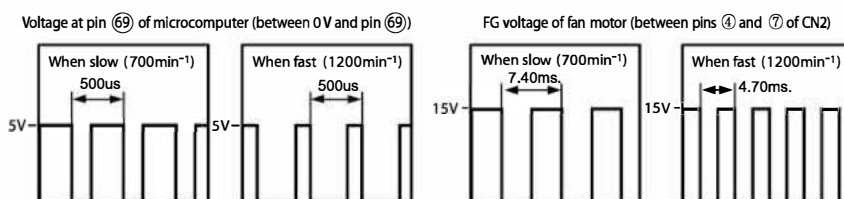

Fig. 3-2
- \* The VS receives a command voltage from the microcomputer. The VS terminal undergoes an analog voltage that matches the Lo level time ratio of the pulse signal from pin ⑥ of the microcomputer. (See Fig. 3-2.)